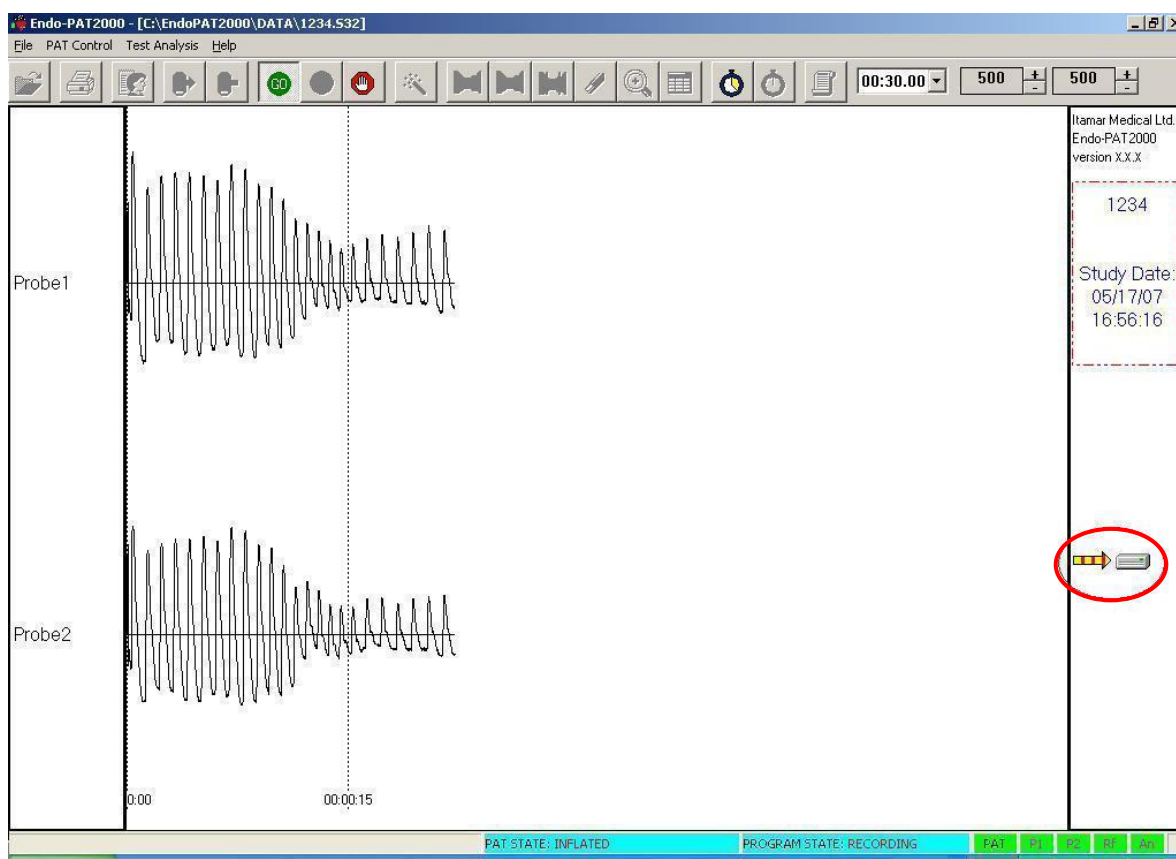

Figure 33 - Recording
- Click the  icon to begin study recording. Verify that the “recording” icon appears on the right hand side of the display (see the circled icon in Figure 33).